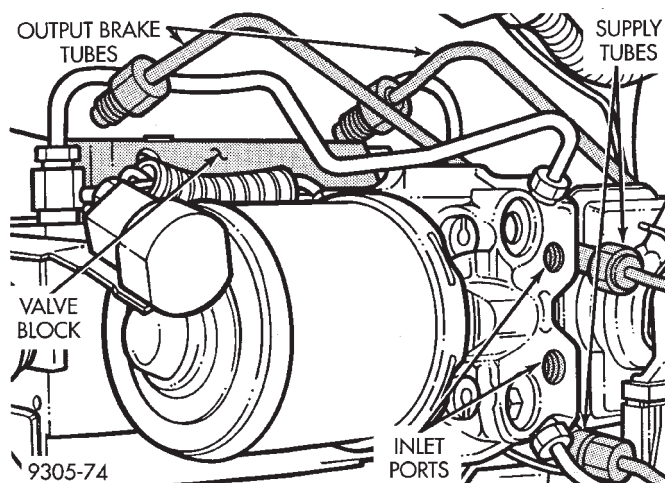

Fig. 6 Brake Fluid Tube Connections At (HCU)
(7) Disconnect the 2 brake fluid supply tubes from the master cylinder at the (HCU) (Fig. 6). Disconnect the 2 brake fluid output tubes from the valve block on the (HCU) (Fig. 6). Disconnect the brake fluid supply hose from the master cylinder reservoir to the (HCU) reservoir, at the (HCU) reservoir. Plug end of supply hose to keep brake fluid from draining out of master cylinder reservoir.